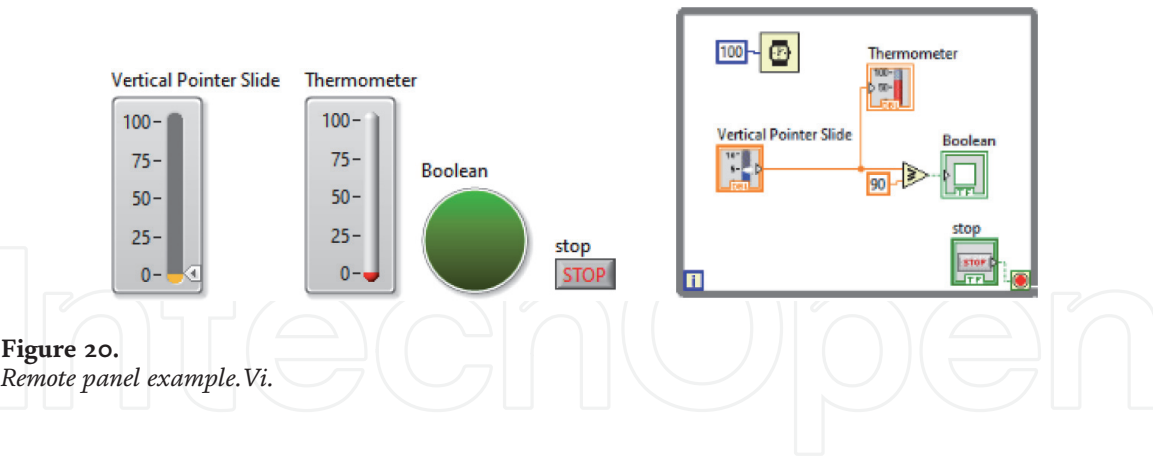

Figure 20.
1. Create a VI. We created a VI named Remote Panel Example.vi (Figure 20).